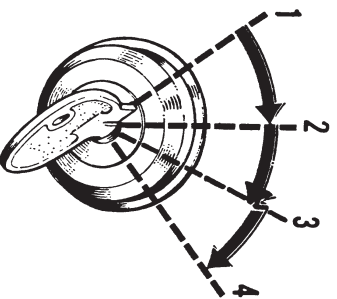

Fig. 7. Key switch
5. **Key switch (see Fig. 7)**
3. Turn the starting key to the running position (position 2 acc. to Fig. 7). Check that the charging control lamp and oil pressure warning lamp light up.
5. Push in the starting key and turn it to position 4 (see Fig. 7), at which the starter motor is engaged.